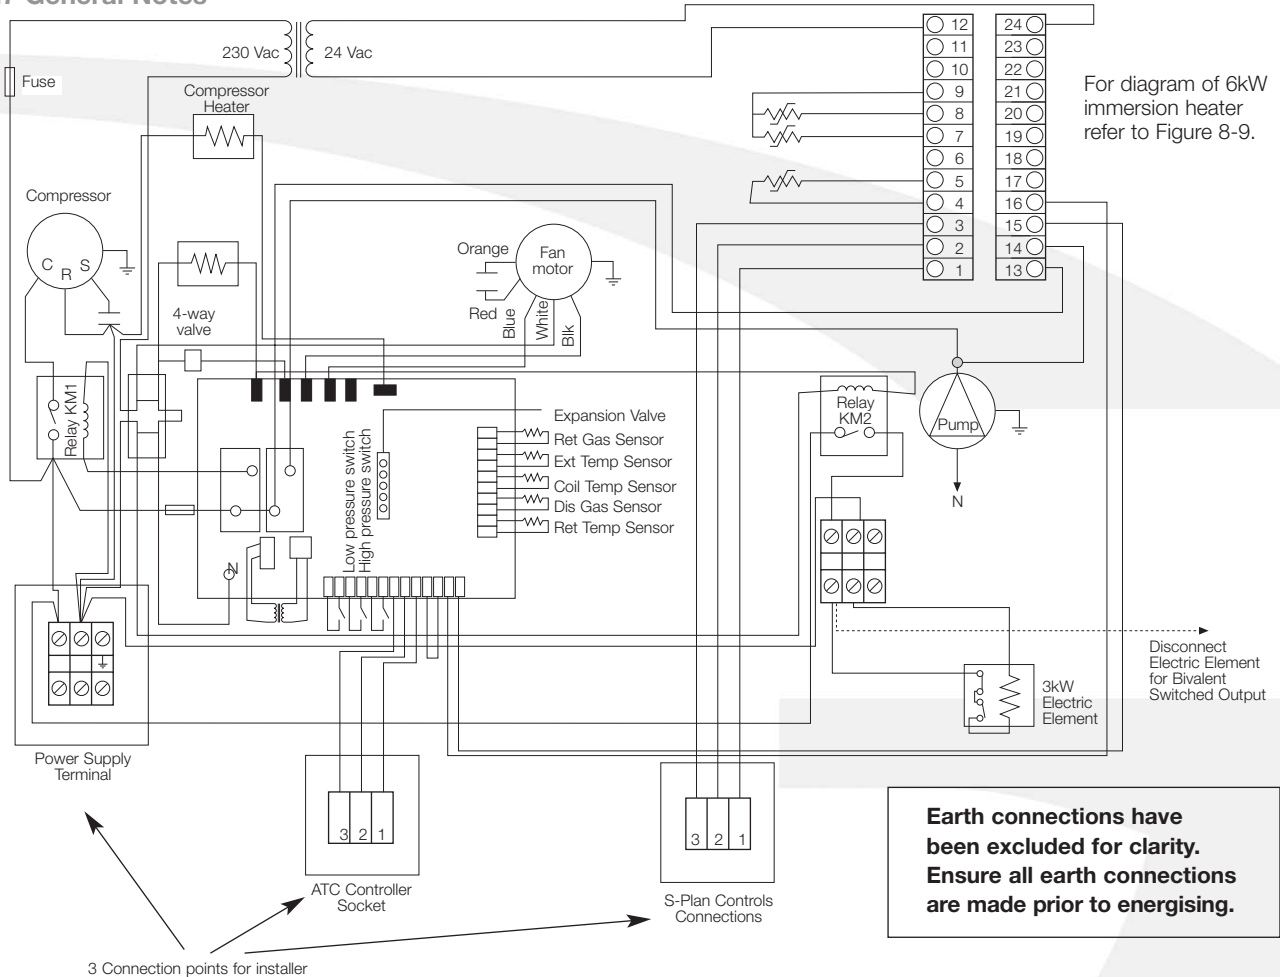

Figure 13-1: Heat pump wiring diagram
1. If no continuity can be found between terminals 1 & 2 and/or 1 & 3 when either the CH or DHW is calling, this indicates a fault with S-plan heating control system. See Figure 13-1 for location of terminals.
2. Check the heating controls S-plan wiring. Refer to Section 8 of this installation manual. Check the demand for CH and DHW in isolation, from the programmer, via either room or cylinder thermostats to the CH and DHW motorised (zone) valves. Check that when the valves are energised that their end switches close – completing the 'volt-free' circuit between terminals 1 & 2 (CH) and 1 & 3 (DHW).